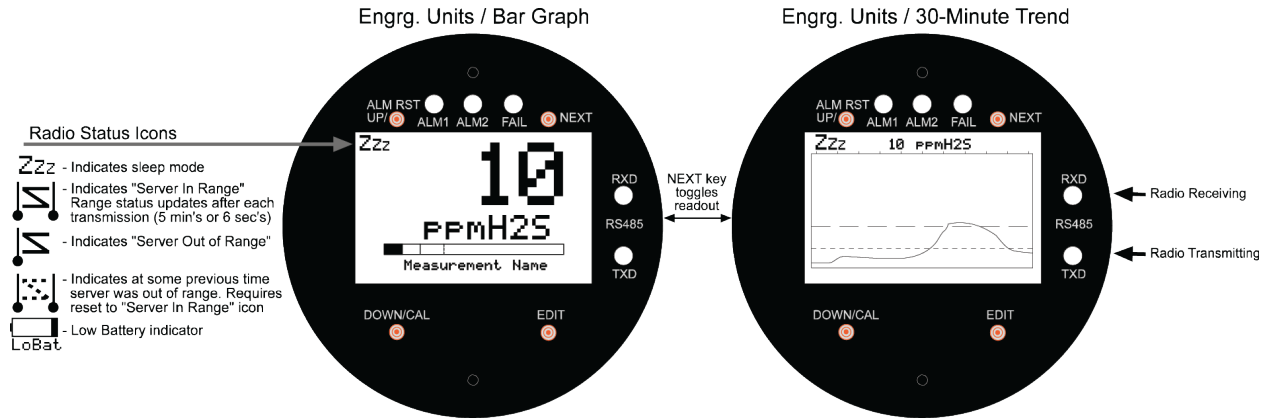

Figure 1-2: Data Displays (RF Version) SHOWING Radio Status
Figure 2-1 shows the data displays and identifies “radio status” (RS) icons which appear on the LCD of RF-configured GDX-350s. RS icons, along with the TXD led (see Figure 1-2), are useful diagnostic tools for evaluating RF communication. Status conditions indicated by the RS icon are **Sleep Mode** - Zzz’s, **Server In Range** - , (server’s beacon received at most recent attempt), **Server Out of Range** - , (server’s beacon not received at most recent attempt), **Server Previously Out of Range** -  and **Low Battery** - . The Server “Previously Out of Range” icon is useful in determining if intermittent communication failures are a result of this monitor having problems receiving the Server’s beacon. The duration and frequency of “out of range” conditions are stored in the Event Log table. Low Battery conditions also flash the FAIL LED.